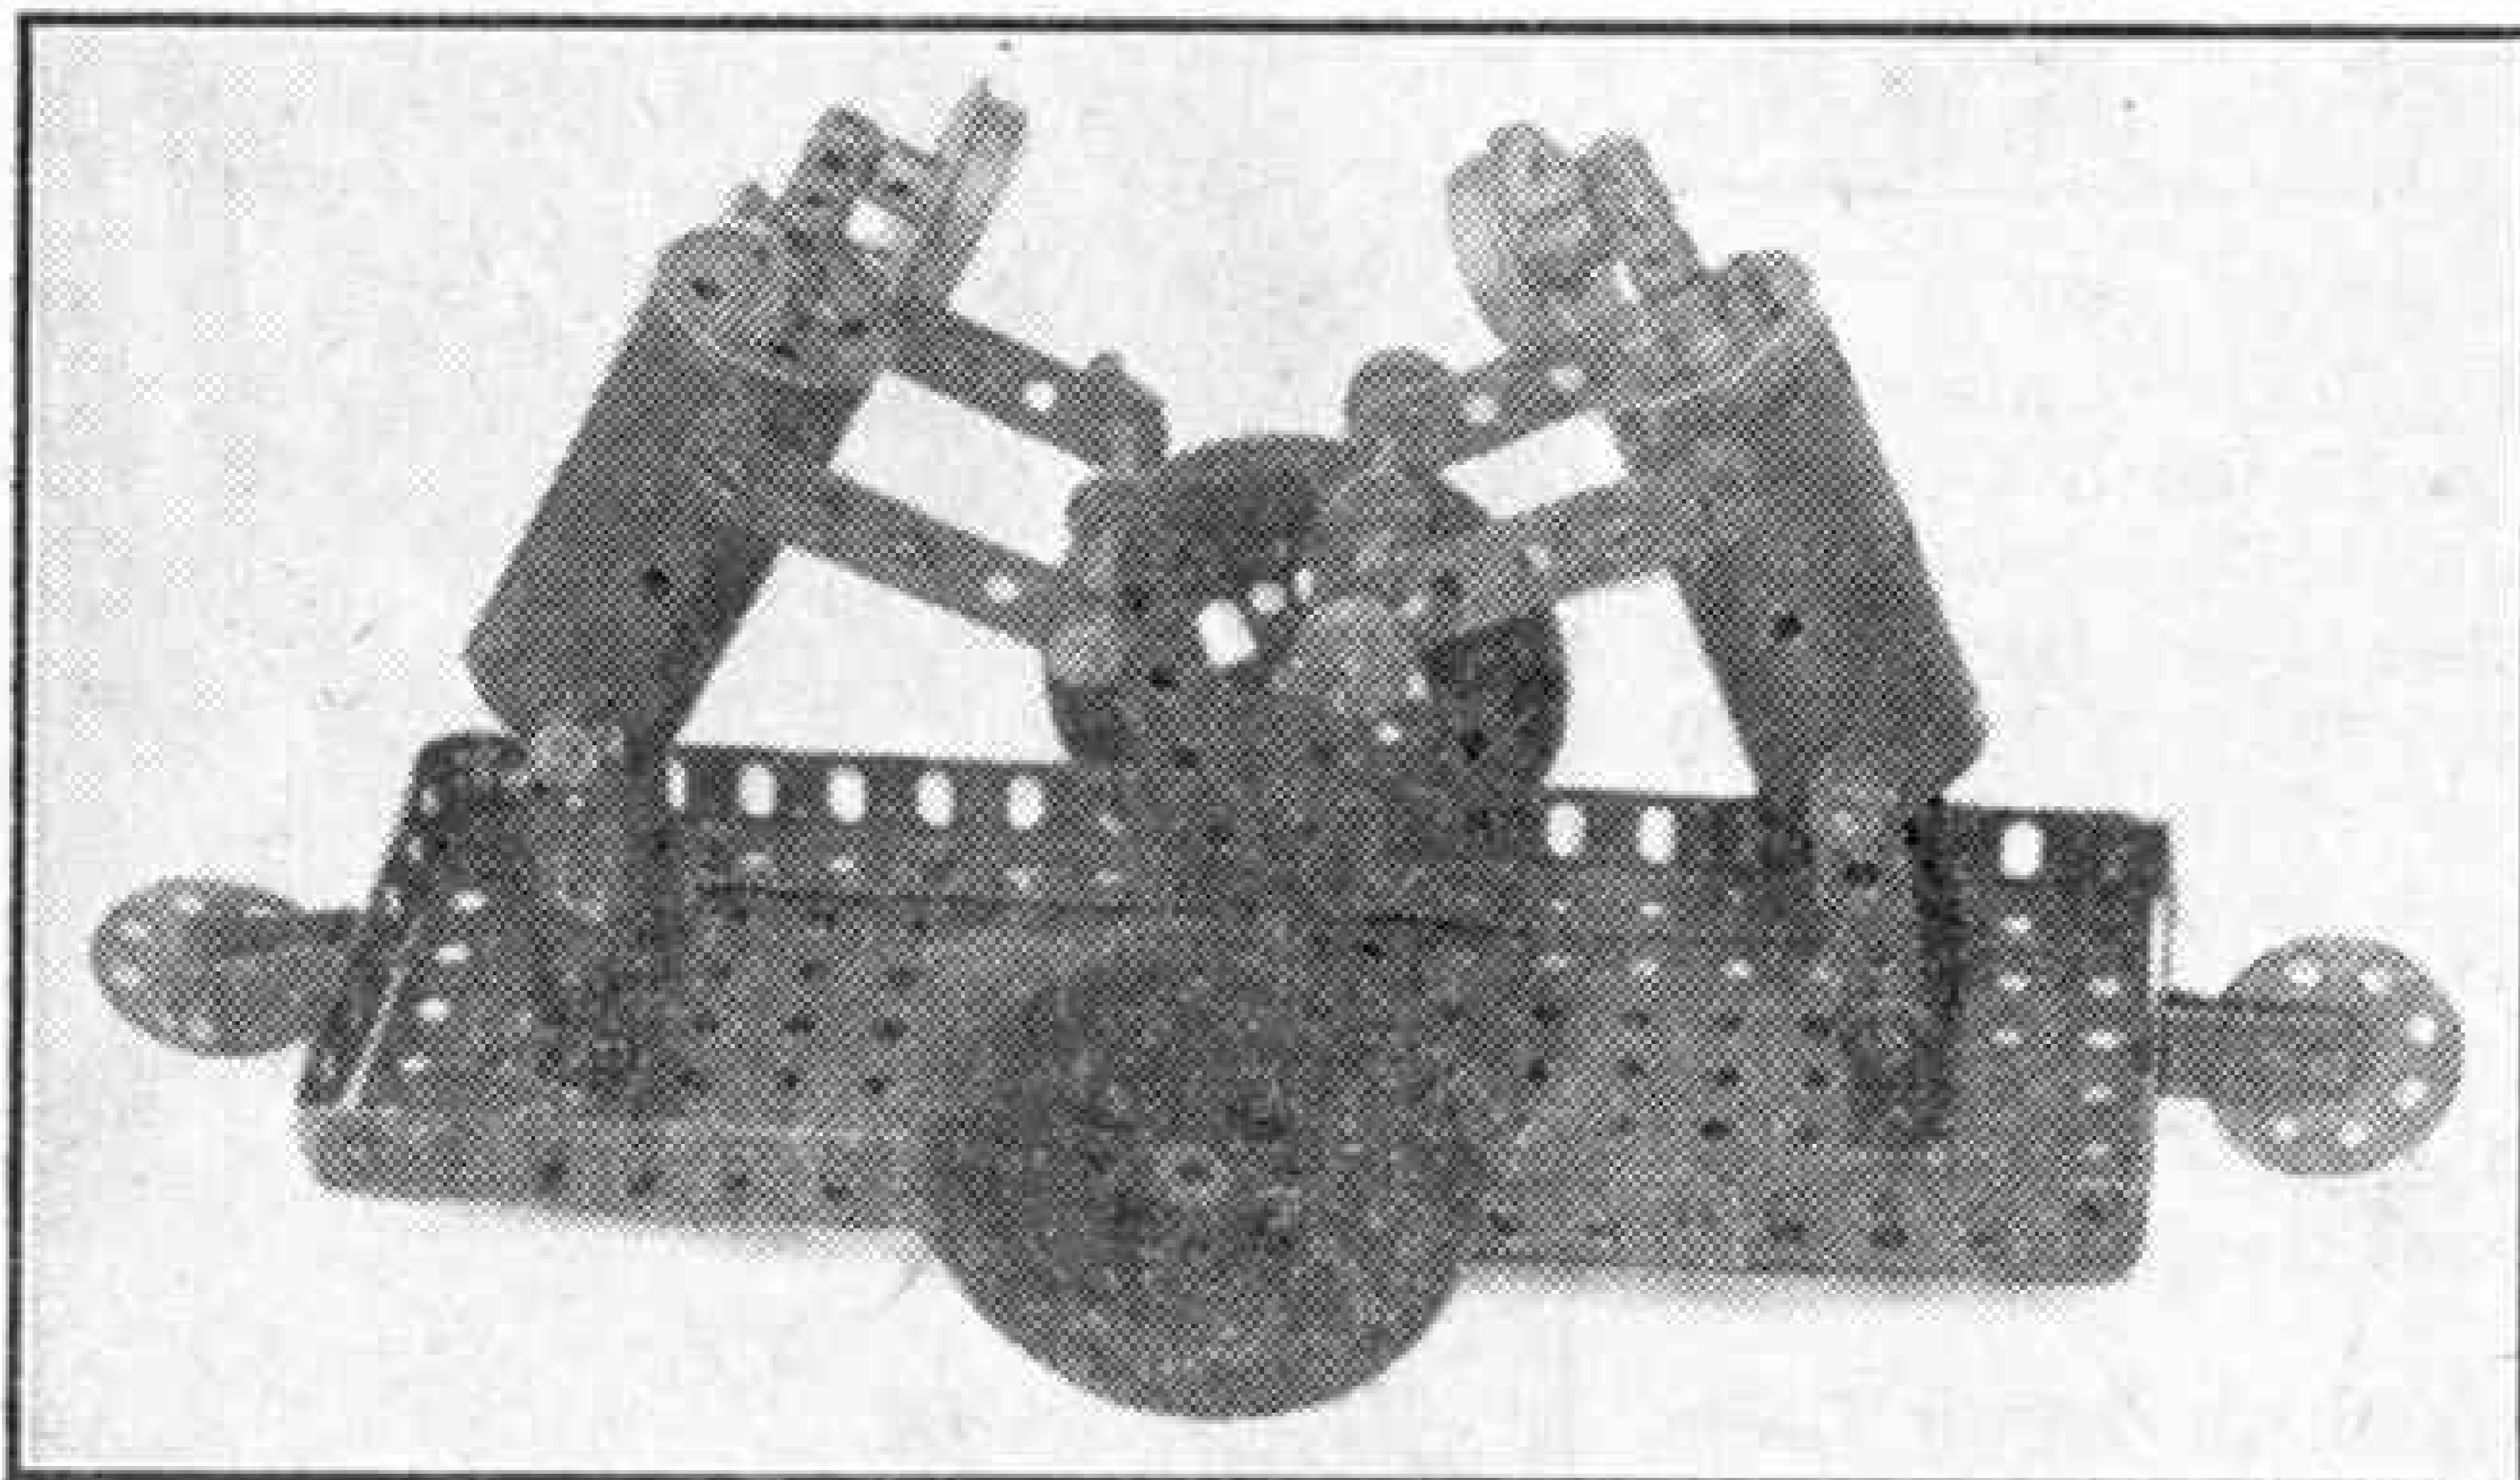
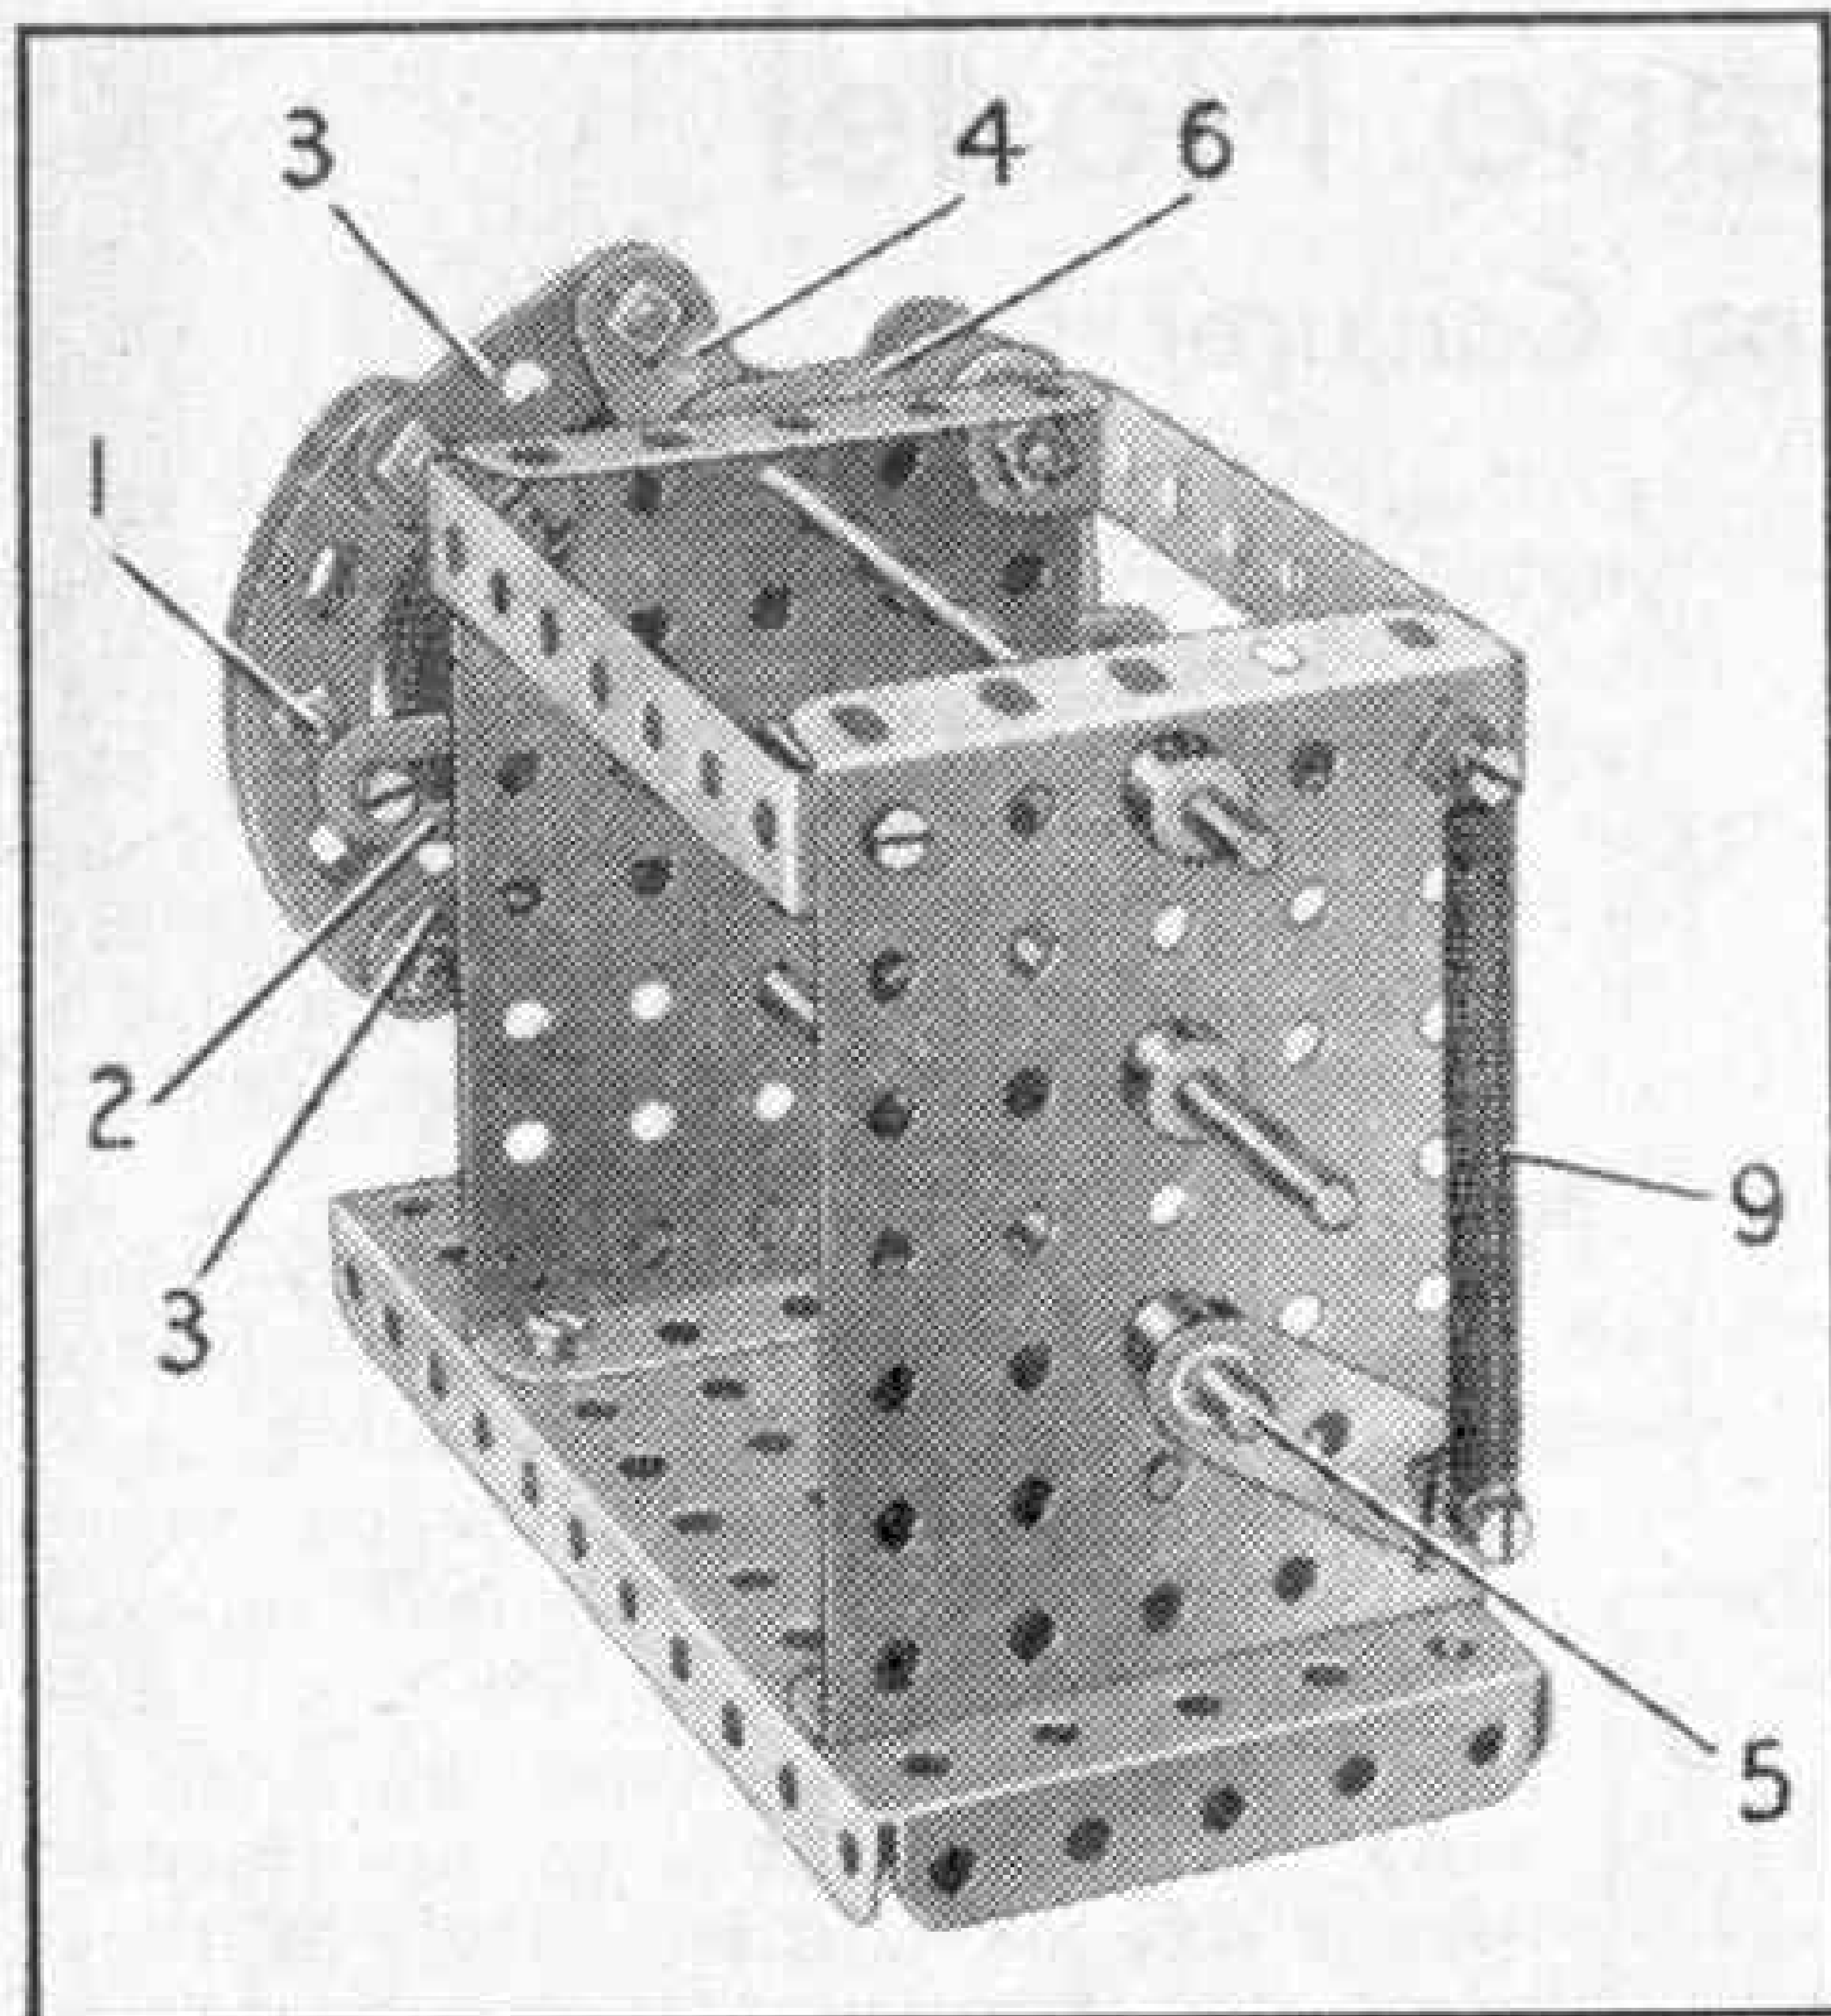
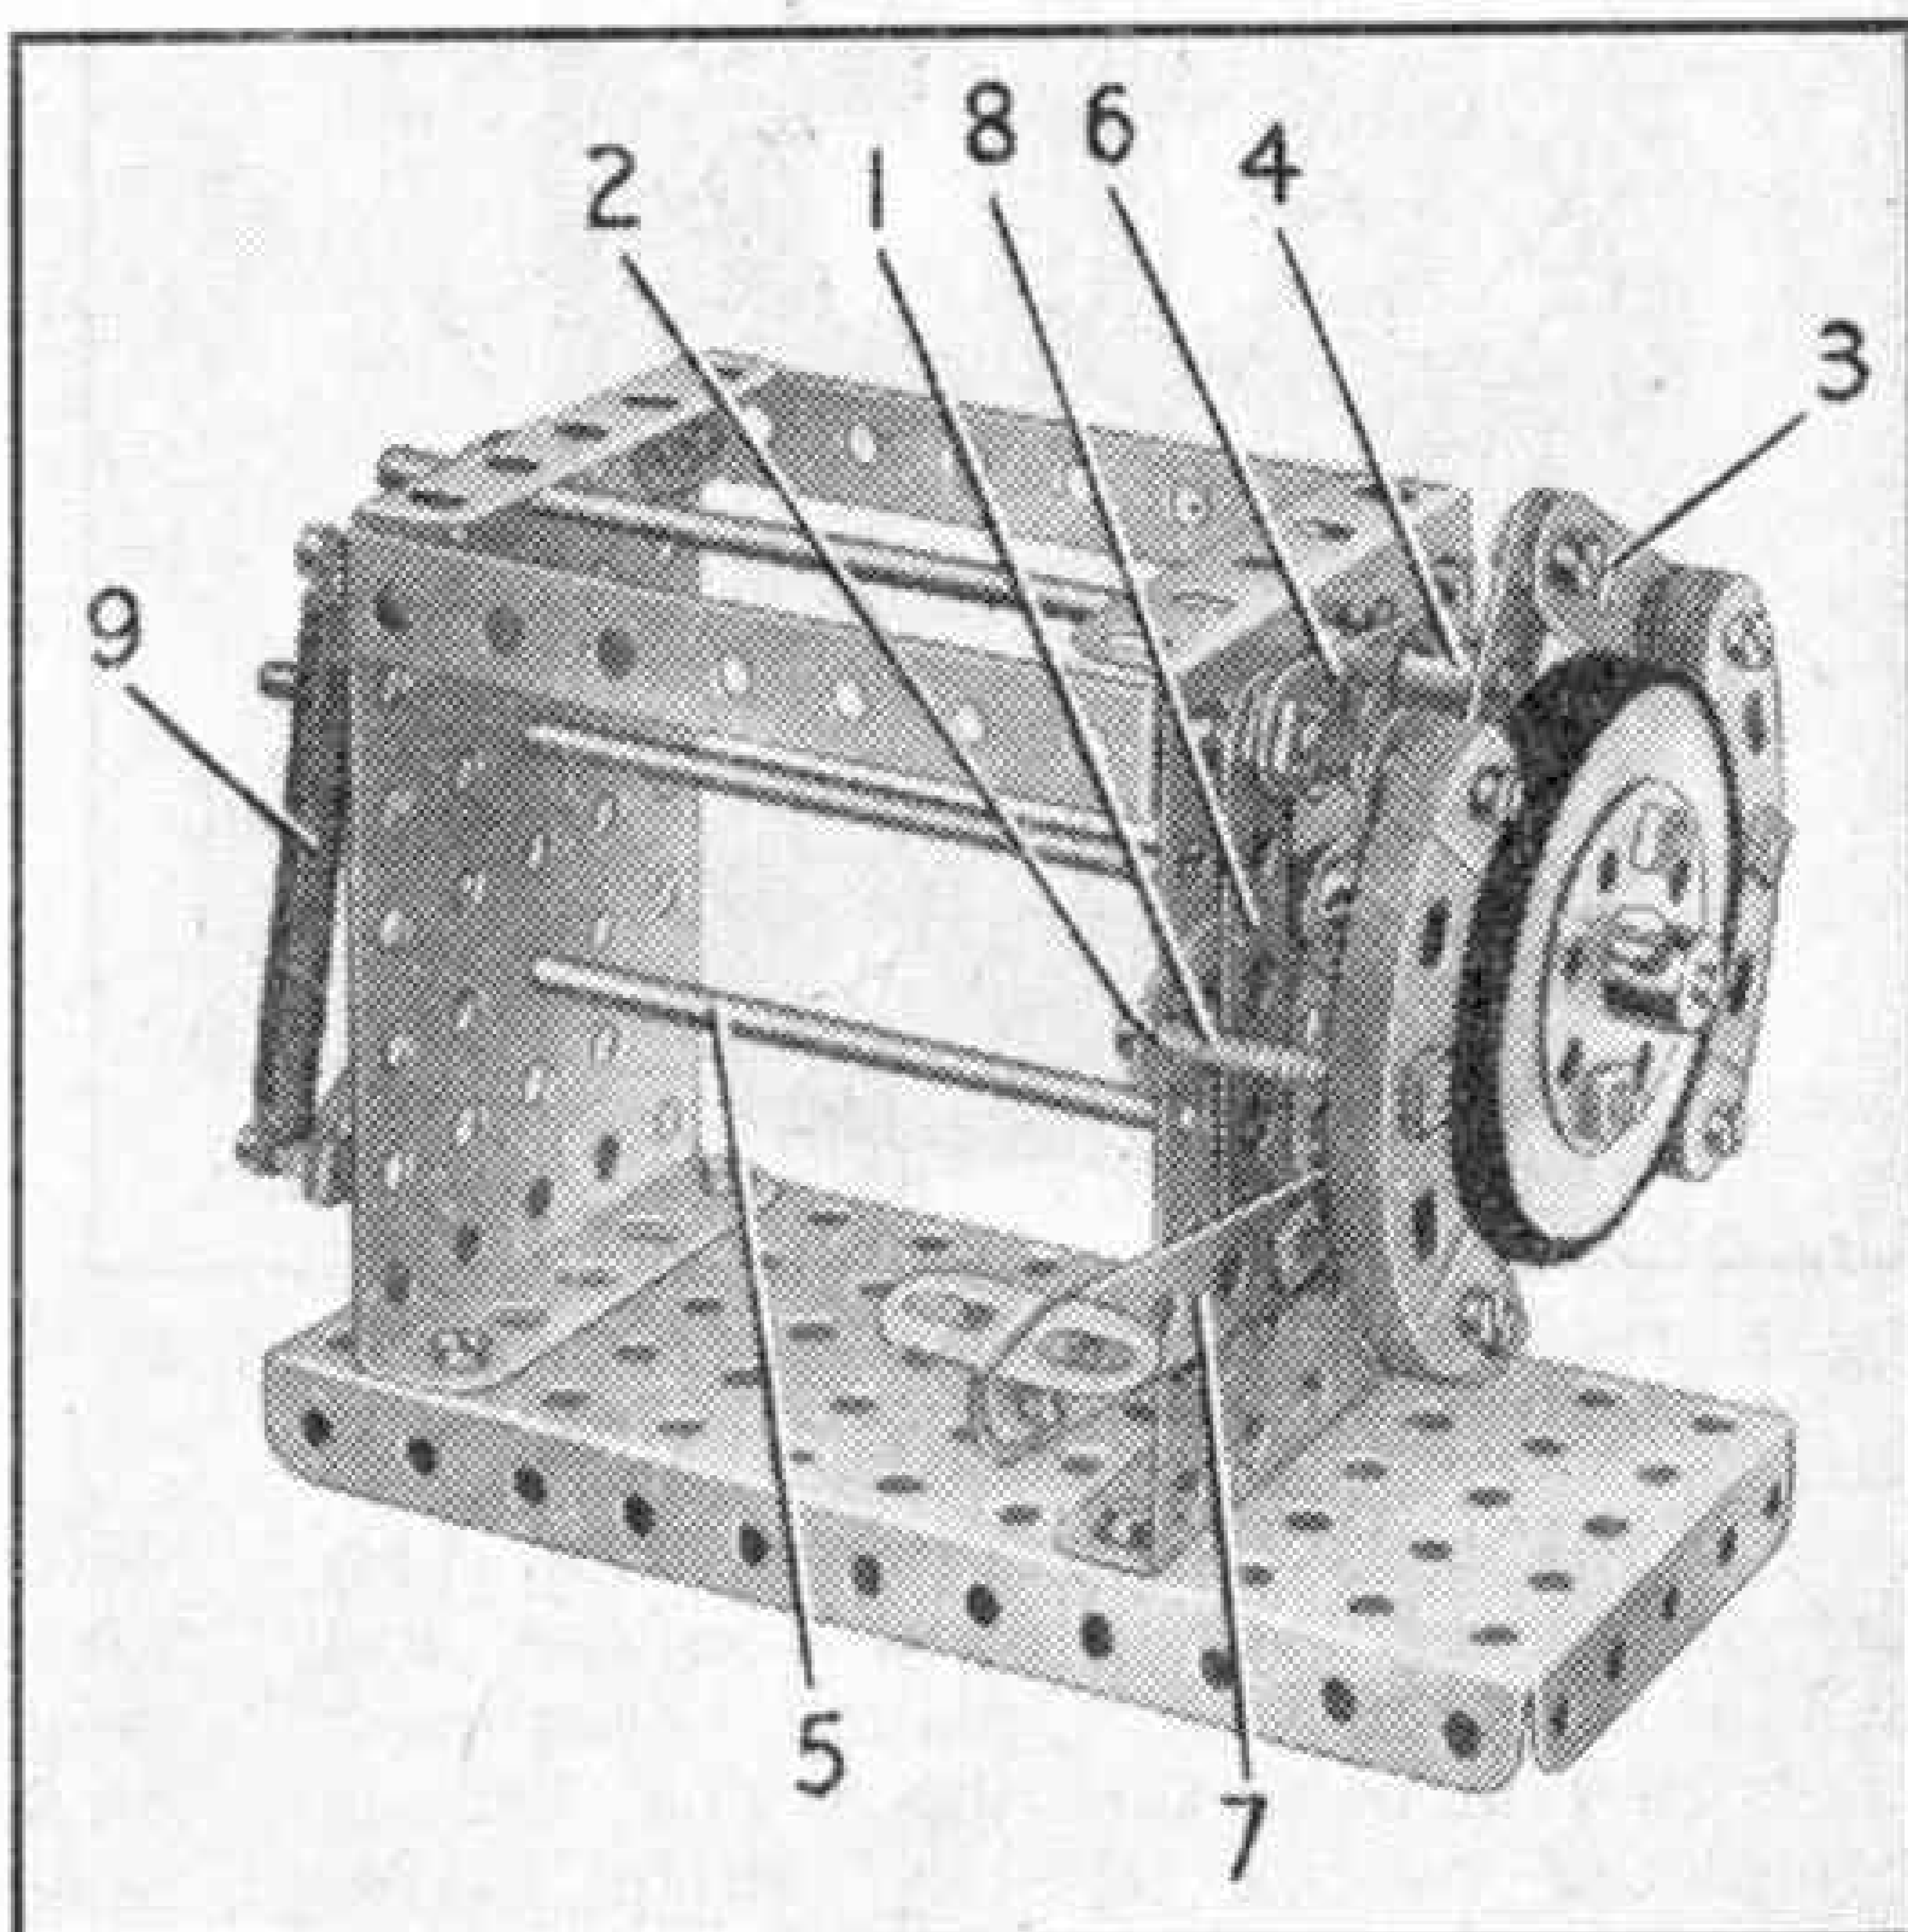

Fig. 2. This simple and amusing mechanical toy was designed by Eric Howell, Dronfield, Sheffield, and is described on this page.
Fig. 3. A powerful external contracting brake suitable for use in colliery winding engines and large cranes.
Fig. 4. Another view of the external contracting brake.
The Socket Coupling that holds the boss of the 2½" Face Plate is fastened to the top of Coupling 23, thus completing the link-up of the drive to the assembly 11 (Fig. 2) but leaving the Rod 24 free.
The drive to the off-set centre 9 (Fig. 2) is transmitted through the reduction gearing shown in Fig. 4 to the Rod 24. With this gearing
the off-set centre is driven at about one-fourth the speed of the assembly 11. A bearing to take the weight supported by Rod 24 is formed by a ¾" Flanged Wheel, which turns on the boss of a 1½" Pulley bolted to the base (Fig. 4).
A Collar 18 (Fig. 4) supports the Gear 16, which is spaced by four Washers from the Double Arm Crank 19 fixed on Rod 17. A spider 20 taken from a Swivel Bearing, is bolted to one end of the Double Arm Crank as shown, and is fitted with two 7/32" Grub Screws. Two Threaded Bosses 21, fitted with ½" Bolts, are bolted to the Gear 16, and two Compression Springs are retained in position between the ends of the ½" Bolts and Grub Screws.
Younger readers will be interested in the simple but amusing little model sent in by Eric Howell, Dronfield, Sheffield, that is shown in Fig. 2 at the foot of this page. It consists of two figures mounted on a wheeled carriage. When the carriage is pushed along the ground the figures are set in motion and appear to be bowing to each other in a really laughable way.
W. Johnstone, Liverpool, sends details of a powerful brake mechanism he designed for use in a large model of a colliery winding engine he built recently. The brake is based on the external contracting system, and is shown in Figs. 3 and 4. The large braking area of the shoes, and the linkage system employed to bring them into contact with the drum, provide a very powerful retarding effect, which can be further increased by fitting a length of adhesive tape over the drum as shown in Fig. 4.